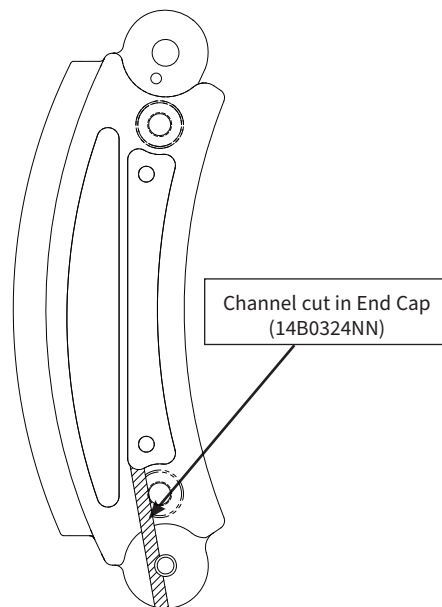

Figure 9: Channel Cut in End Cap
- 2 Using (1) “lever type” wire-nut, connect the blue wire from the reversing edge to the blue wire from the transmitter.
- 3 Using (1) “lever type” wire-nut, connect the brown wire from the reversing edge to the black wire from the transmitter.
- 5 Route the wires from the reversing edge into the channel cut in the end cap link (14B0324NN) you removed earlier (Figure 9). Position the end cap link back on the slat, keeping the wires in the channel, replace the (2) 1/4-20 X 2.00” screws 41A1070, and tighten.